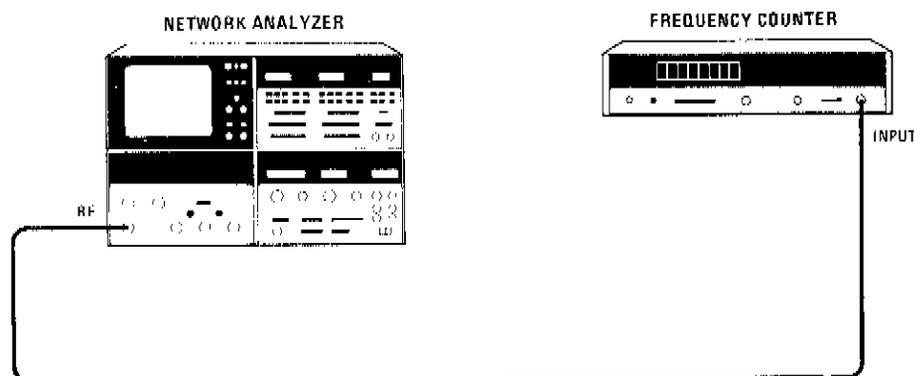

Figure C3-2. A2 Frequency Control Troubleshooting Test Setup
- Connect equipment as shown in Figure C3-2 and set LINE switch to ON.